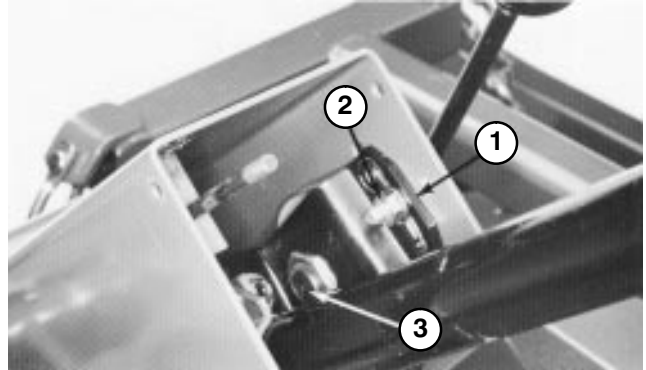

Figure 59
1. Remove knob from parking brake and self tapping screws from steering column cover. Slide cover up steering shaft to expose pivot bracket (Fig. 59).
2. Loosen small nut, rotate pivot bracket until it tightens large nut below (Fig. 59). Retighten small nut.